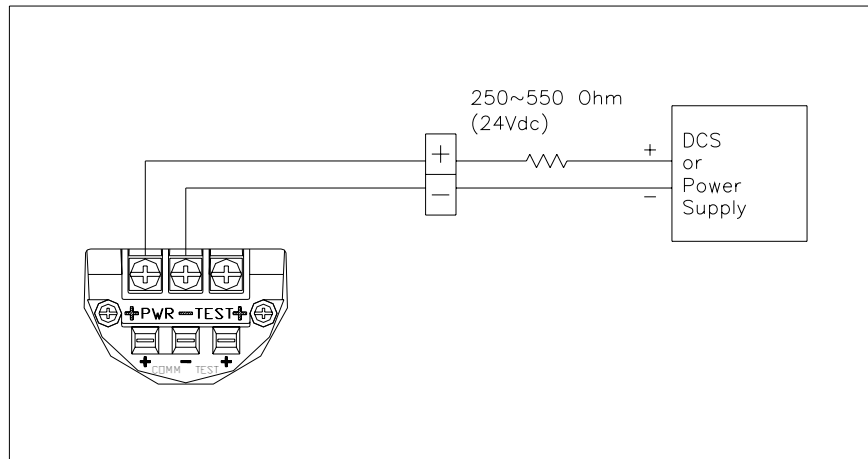

Figure 4-2 Connection with Terminal Board of Transmitter
- (7) You have to connect 250~600 W Loop Resistor in Current Loop(between Power Supply and Transmitter) for HART Communication HART. Following Figure 4-2 about connection of Current Loop.